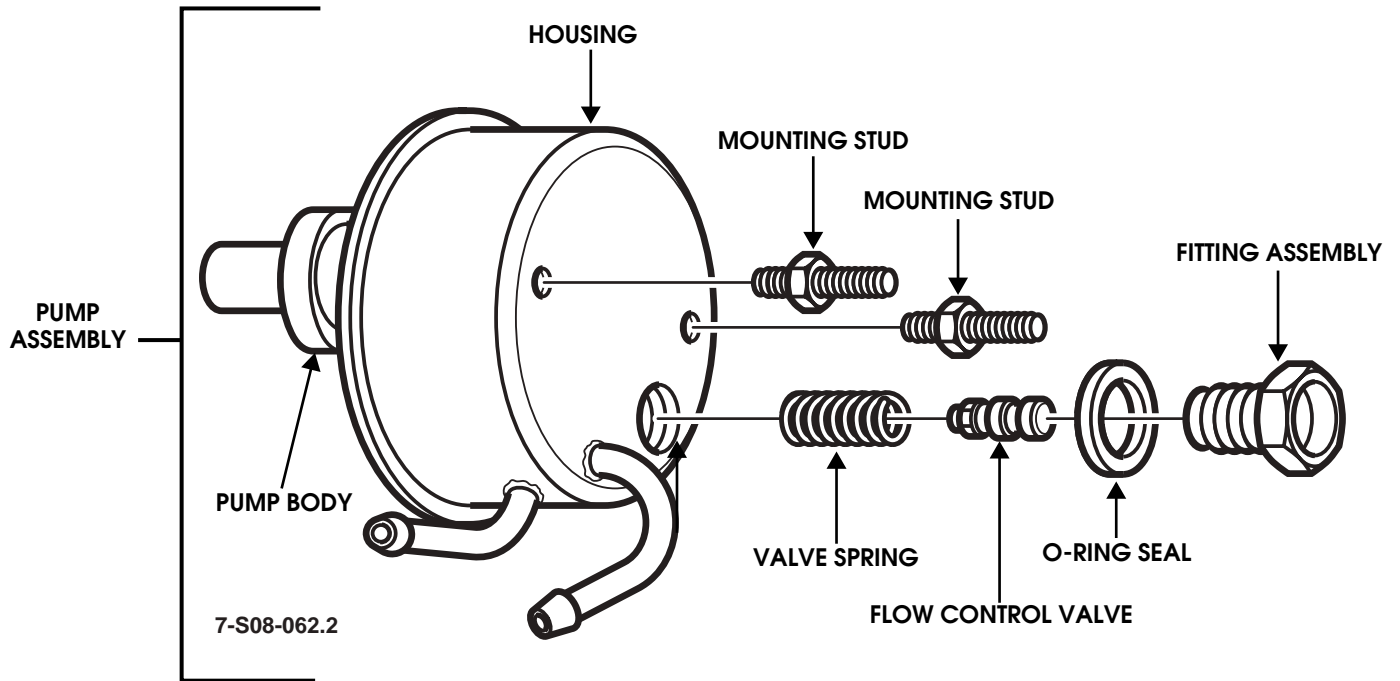

Figure 8-72: Pump Assembly
Disassembly (Figures 8-72 through 8-77)
3. Drain fluid from pump assembly (Figure 8-72).
Assembly (Figures 8-72 through 8-83)